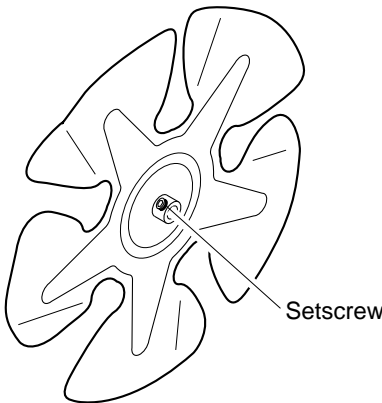

Figure 11 - Setscrew Location
3. Use hex wrench to loosen set screw which holds fan to motor shaft (see Figure 11). Remove fan. Be careful not to damage the fan blade pitch.